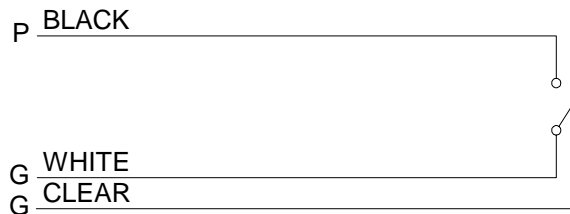
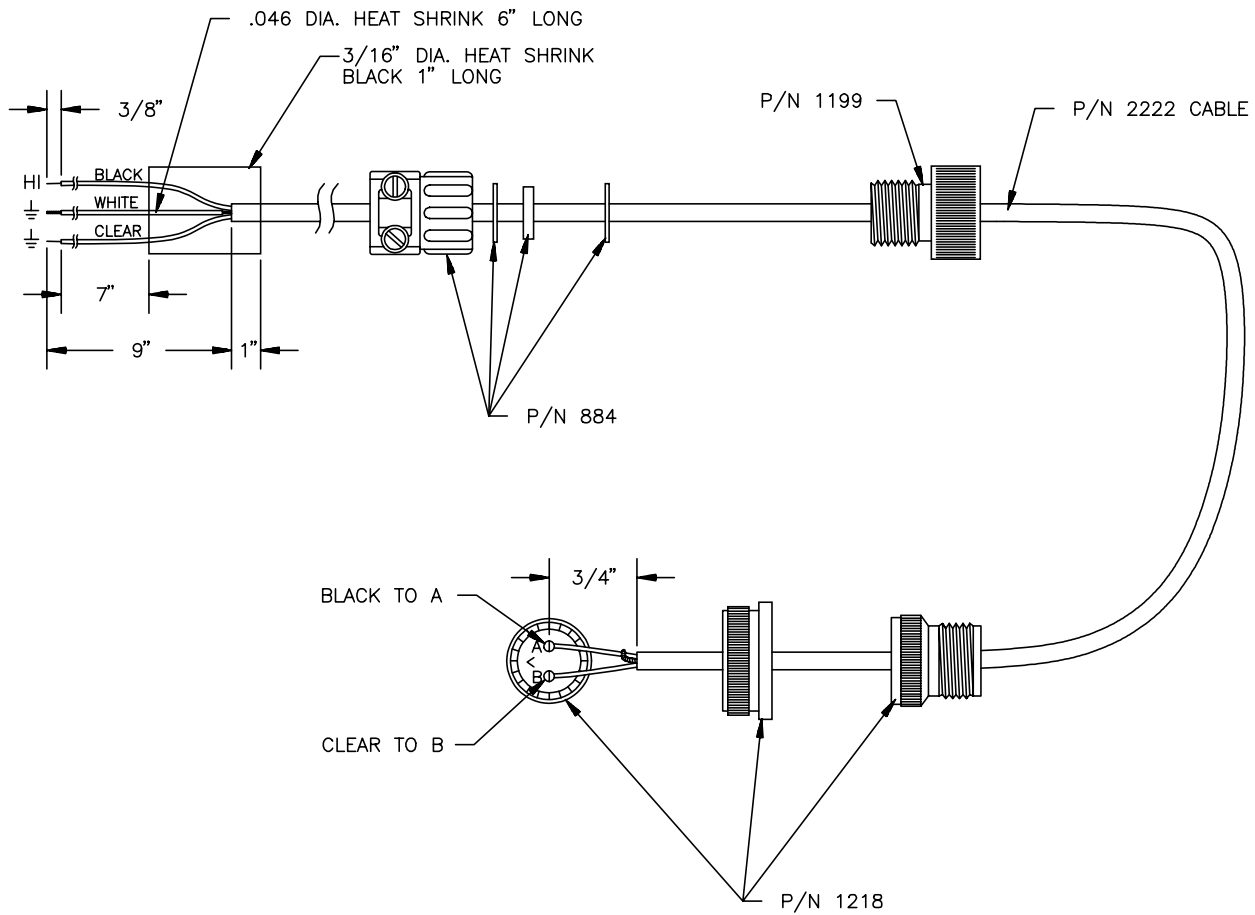

FIGURE 2A. Schematic of 014A Wind Speed Sensor Connected to Pulse Input
FIGURE 4. Cable Diagram
The black lead connects to a Pulse Count Channel. The clear (ground) lead connects to a Ground terminal (G). The white lead is the shield which also connects to a ground terminal. A schematic of the 014A is shown in Figure 2A, and a diagram of the cable is shown in Figure 4.